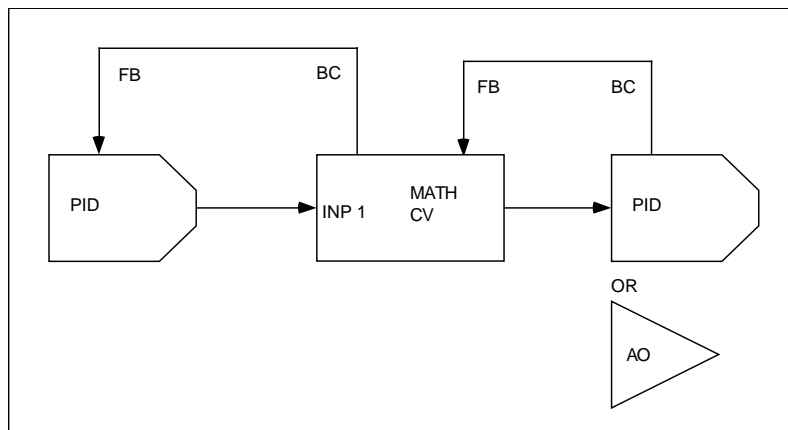

Figure 4-5 Math CV Feedback Programming
| FEEDBACK | OFF, analog parameter, number | Select LP# BC or AO# BC to propagate the back calculation (BC) value from a downstream loop or AO. Also, program the upstream loop's feedback with this Math CV's back calculation value (CV# BC). You MUST program this CV's feedback to NONE if this CV is not used as part of a control loop output configuration (Figure 4-5). If it is part of a loop configuration, the math operator cannot be ABSVAL, SQRT, or STDDEV. |